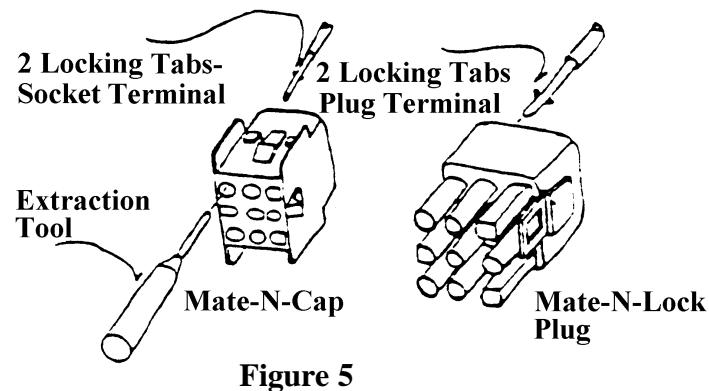

Figure 5
3. Insert the extraction tool into the front side of the mate-n-lok plug or cap. (See figure 5.)
4. Push in firmly. This will depress the locking tabs on the terminal. (See figure 5.)
7. To insert the terminal, open the two (2) locking tabs approximately 1/32" to assure locking within the housing, then push the terminal into position.